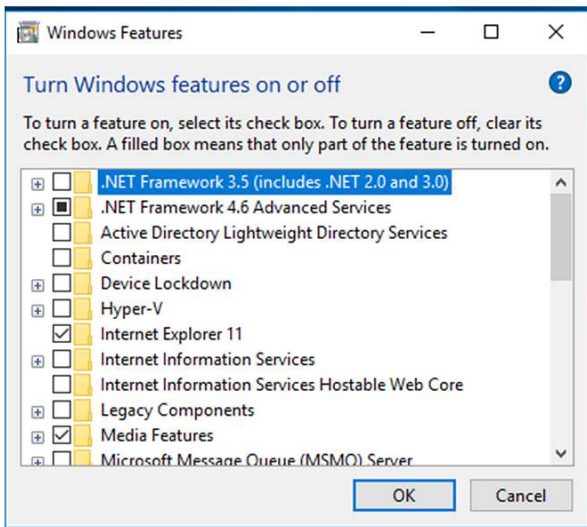

Figure 3. Turning Windows Features On and Off
- b) Select the **Turn Windows Features on or off** section. This will list the features currently installed. In this list change that the **.NET framework 3.5 (includes .NET 2.0 and 3.0)** has been selected. Figure 3 below shows the dialog box as it appears in Windows 10.